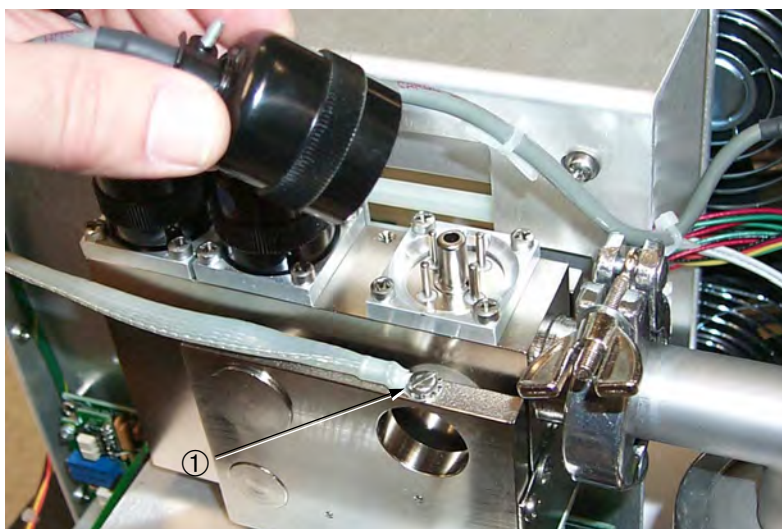

Figure 4-3 Removing the Connectors
4. Remove the three connectors from the top of the spectrometer tube (Figure 4-3). The connector cables are labeled TC, Ion Source, and Preamplifier. If the cables are not labeled, label them now for future reference.
5. Disconnect the ground cable from the spectrometer tube magnet by removing the screw ① with a slotted screwdriver (Figure 4-3 on page 4-7).